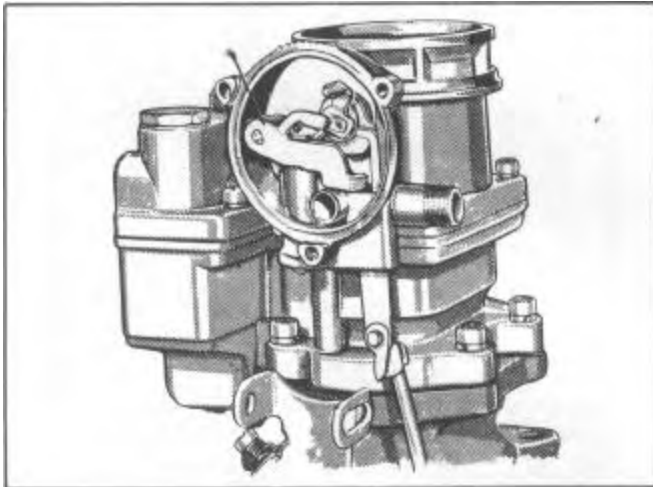

FIGURE 90
26. Install choke trip lever assembly, Figure 90.